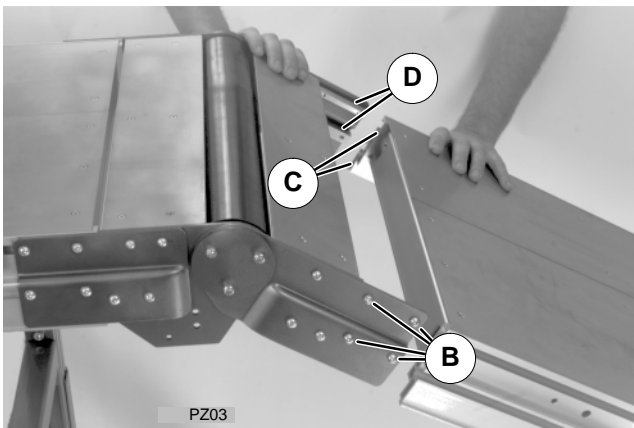

Figure 4: LPZ Section Connection Detail
8. Refer to Figure 4 and connect adjoining LPZ sections in the following manner:
- a. Loosen (but not remove) the four (4) M6 x 12 mm cap screws (B of Figure 4), on both sides of the conveyor.
- b. Bring both conveyor sections into close proximity and align the T-bars (D) with the T-slots (C) in the adjoining conveyor section.